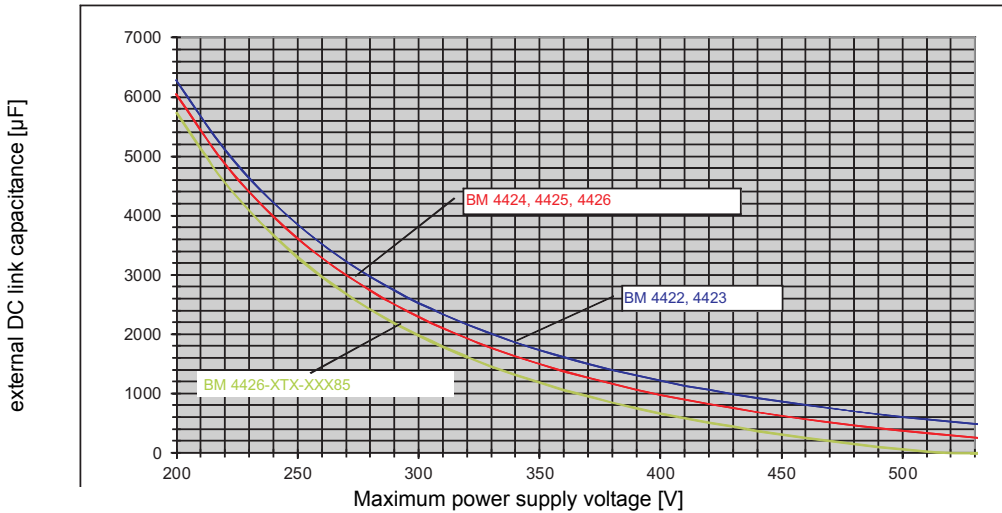

Figure 35: Maximum external DC link capacitance BM442X
DC link capacitance (external), permitted	Refer to ▶Figure 35◀ on page 71
DC link capacitance (external), permitted	Refer to ►Figure 35◄ on page 71
- 9) The specified value is only valid, if there is no additional DC link capacitance connected to the DC link terminals. Refer to Power on switching frequency / DC link charging on page 231 and Figure 35 on page 71.